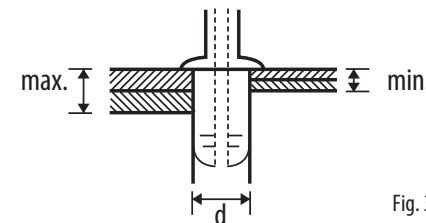

Fig. 3
- Select a rivet from a suitable material with dimensions respecting the hole diameter and its minimum and maximum depth. These parameters are necessary for a strong rivet connection, see fig.3.